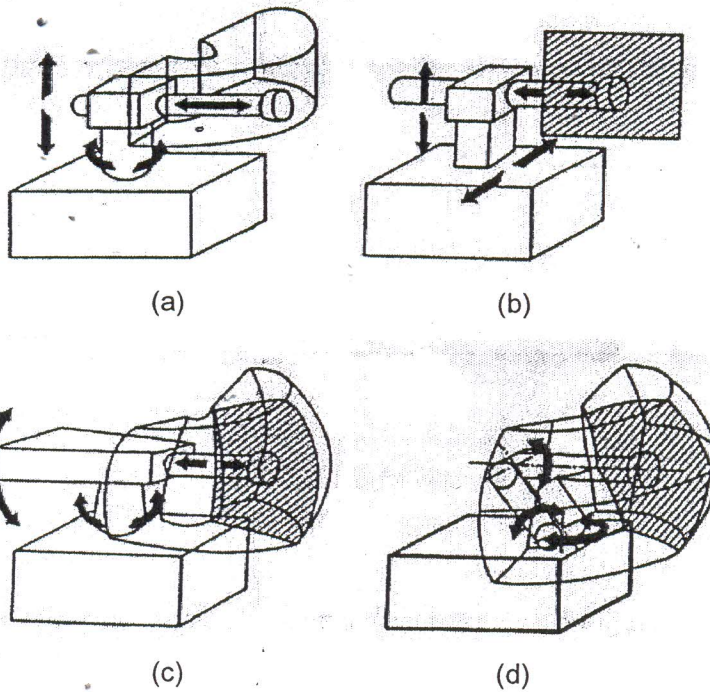

Figure 3: Robot types
(b) Determine the degree of freedom for each figure shown in Figure 3.
(c) Classify the examples in the Figure 3 represent which type of robot configuration.
(d) Give two (2) advantages and disadvantages of using robot type in Figure 3(d).